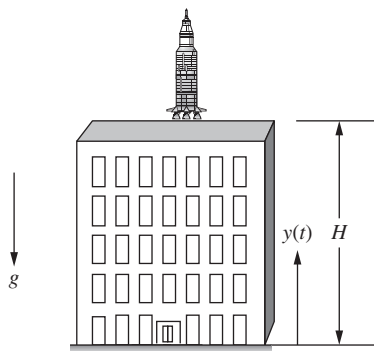

Figure P8.1 A rocket fired from top of a building in problem P8-1.
- 8-1.** A model rocket is fired from the roof of a 80 ft tall building as shown in Fig. P8.1. The height of the rocket is given by